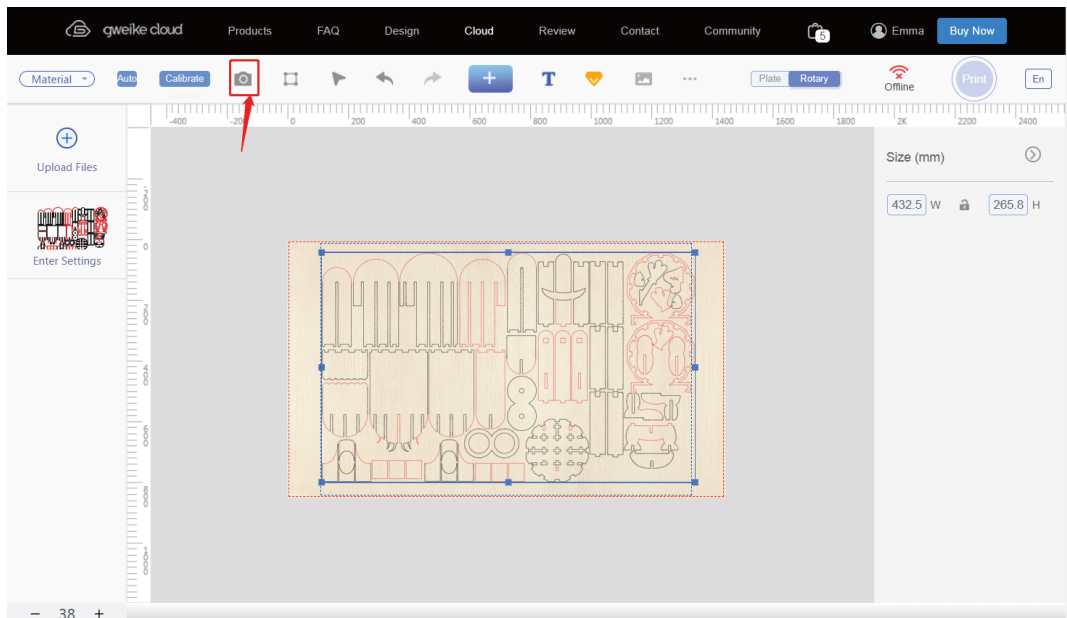

Figure 20
- ① The network environment is abnormal when sending photos, it is recommended to change the network environment
- ② The network fluctuates, click the photo button (preview) on the page to get the photo again (Figure 20)